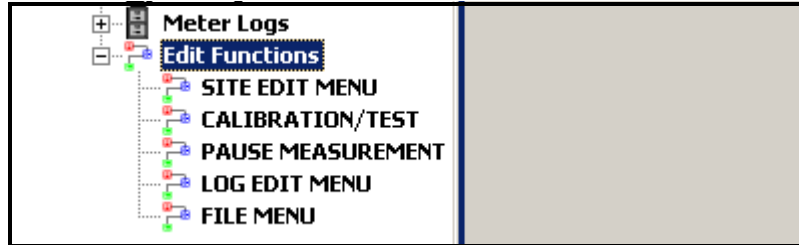
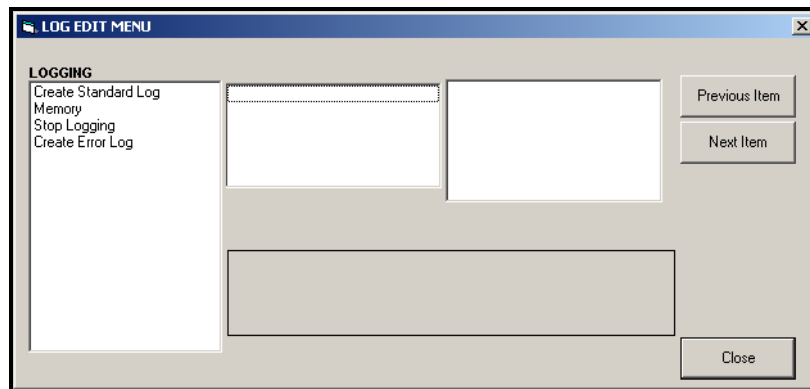

Figure 10: The Edit Functions Menu for an XGS868i with a Logging Card
Figure 11: The Log Edit Menu Window
1. From the *New Meter Browser* in PanaView, expand the network tree and open the *Edit Functions* option (described in Appendix C, *Programming the XGS868i via PanaView*). The menu will appear similar to Figure 10.
2. Double-click on the *Log Edit Menu*, as shown in Figure 10. The window appears similar to Figure 11.